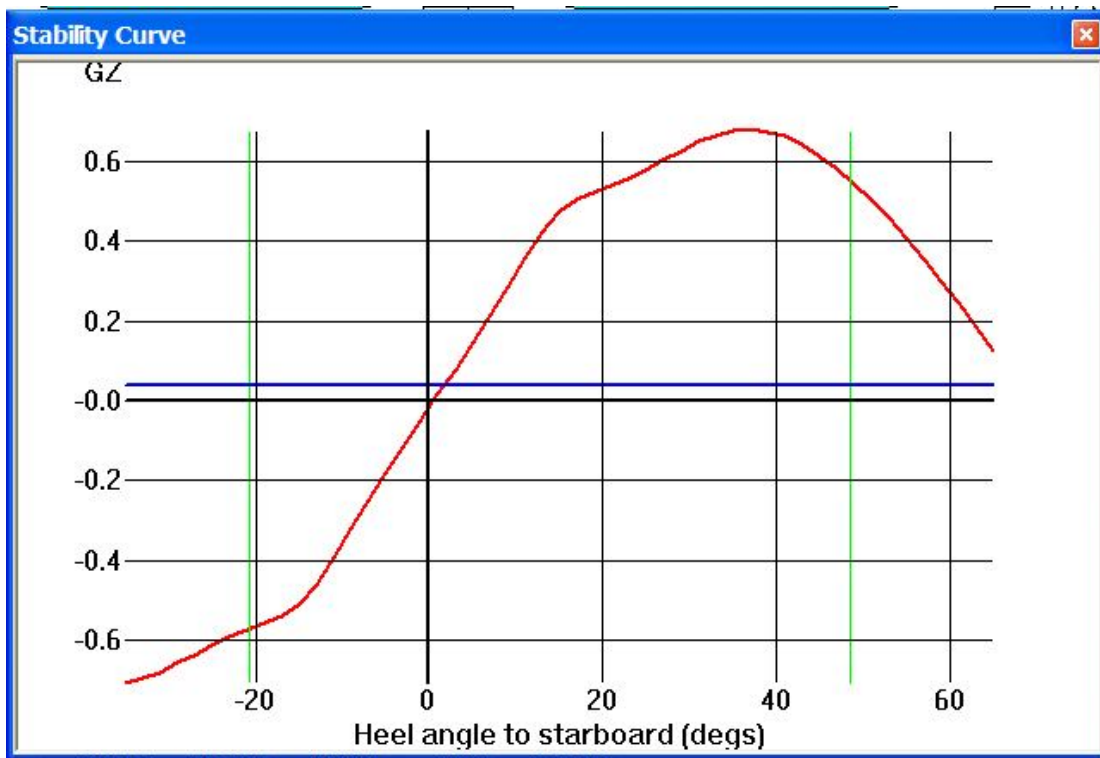

Figure 5 Stability (GZ) Curve
Figure 5 shows a typical stability righting lever (GZ) curve for an intact condition. To evaluate the IMO stability criteria, allowance must be made for roll-back when a wind heeling moment is applied, hence the curve must extend to the left to accommodate this. The roll-back angle is indicated by the left-most vertical green line. The other vertical green line on the right, is the down-flood angle, or the angle at which water starts to enter through an unprotected opening. The wind heeling moment is shown as a blue line.